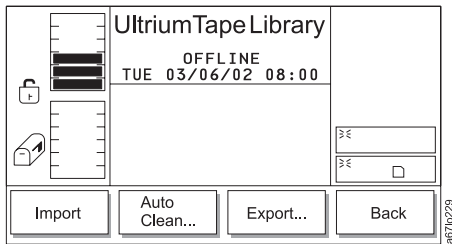

Figure 4-84. I/O Station Submenu
2. Press the button below the **I/O Station** softkey. The I/O Station Submenu displays (see Figure 4-84).